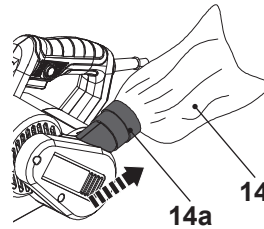

Fig. 8
3. Hold and pull the dust bag connector (14a) to remove the dust bag (14) (Fig. 8).